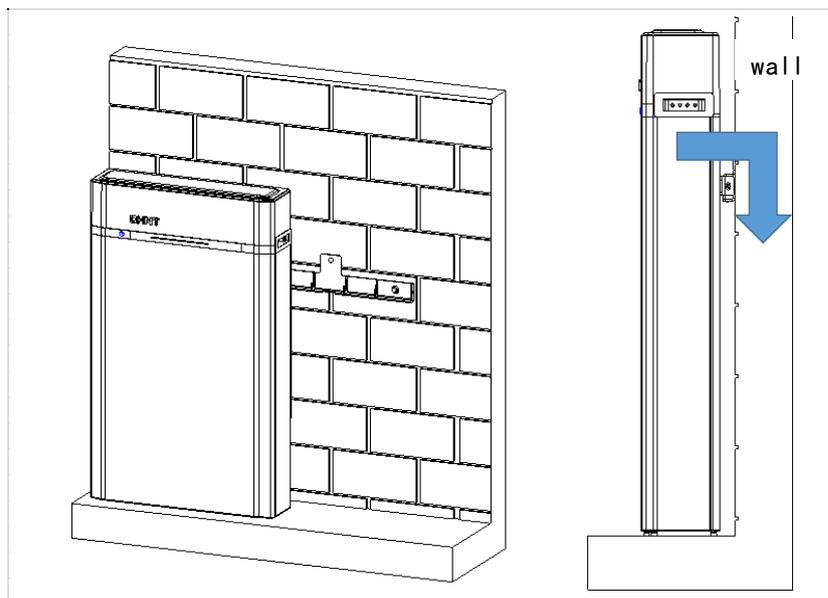

Figure 4-14
3. The battery pack (G) assembled in step 2 is clamped into the wall mounting bracket (H) fixed to the wall in step 1, as shown in Figure 4-14:
The arrows indicate the direction and order in which the battery packs are installed in Figure 4-14.